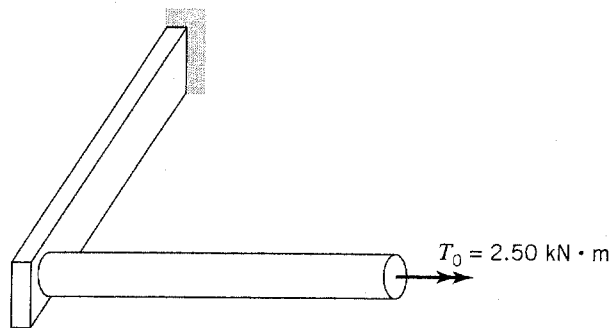

FIGURE P5.51
5.51. A structure (Figure P5.51) is made by welding a circular cross section steel shaft ($E = 200$ GPa and $G = 77.5$ GPa), of length 1.2 m and diameter 60 mm, to a rectangular cross section steel beam of length 1.5 m and cross-section dimensions 70 mm by 30 mm. A torque $T_0 = 2.50$ kN \cdot m is applied to the free end of the shaft as shown. Determine the rotation of the free end of the shaft.